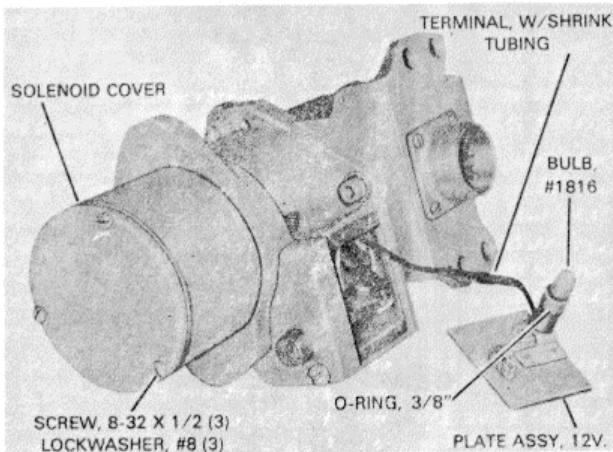
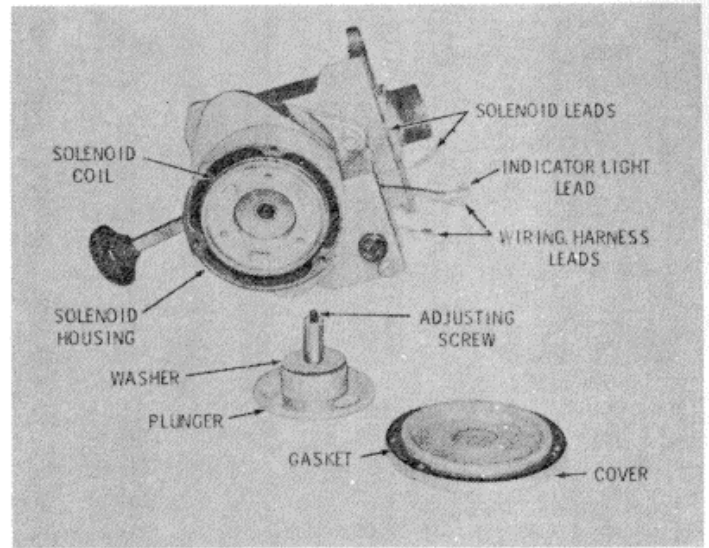
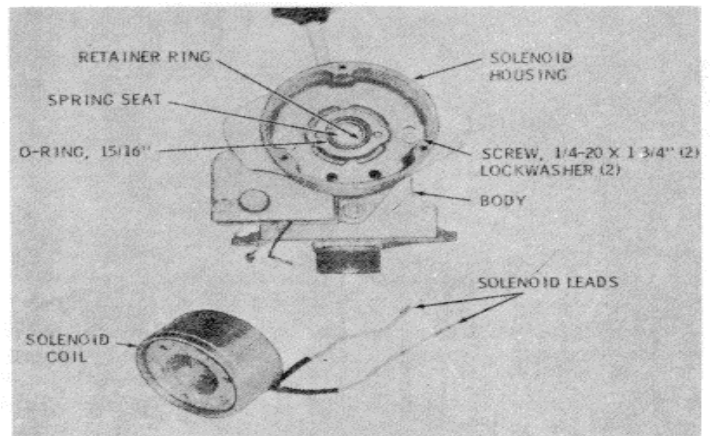

Figure 15-102. Shift Tower Assembly
Figure 15-103. Downshift Inhibitor Components
Figure 15-104. Shift Tower Assembly with Solenoid Removed
2. Carefully pull the plate assembly from the shift tower body (Figure 15-102). If necessary, remove the light bulb and O-ring from the socket.
4. Remove three screws and lockwashers that retain the inhibitor solenoid cover (Figure 15-102).
5. Remove the solenoid cover and gasket (Figure 15-103). Remove the plunger and washer from the solenoid.
6. Remove the heat-shrink tubing from the solenoid and wiring harness leads (Figure 15-103). Disconnect the leads.
7. Remove the solenoid coil, working the leads through the holes in the shift tower body and solenoid housing (Figure 15-104). Remove O-ring 58 (B, Foldout 12), retainer ring 59, spring seat 60, and spring 61 from the solenoid housing.
8. Remove two socket-head screws and lockwashers that retain the solenoid housing (Figure 15-104). Remove the housing.
24. Install two 1/4-20 x 1-3/4 inch screws and lockwashers to retain the solenoid housing (Figure 15-104).
26. Install the spring seat and retainer ring (Figure 15-104). Install the 15/16 inch (23.79 mm) O-ring into the housing counterbore.
29. Install the solenoid coil into the solenoid housing (Figure 15-104). Thread the solenoid leads through two holes in the solenoid housing, indicator support, and body cover until they can be pulled out of the bottom opening in the body (Figure 15-103).
30. Install the solenoid plunger and washer into the solenoid coil (Figure 15-103). Install the solenoid housing gasket and cover. Retain the cover with three 8-32 x 1/2 inch screws and lockwashers (Figure 15-102).
31. With the solenoid and cover installed, check the shift handle for freedom of movement in both upshift and downshift directions. Any tendency to catch during downshift movement indicates interference between the inner and outer clutch teeth. This may be corrected by removing the cover, gasket, solenoid plunger, and washer, and by rotating the adjusting screw (Figure 15-103) clockwise (inward) until there is no interference. Adjust the screw one turn at a time and recheck for clutch interference after each adjustment.
32. At this stage of assembly, there are five unconnected leads at the bottom of the selector assembly. Four are light color; one is black (Figure 15-103). Attach the two solenoid leads to the proper two wiring harness leads, insulating each connection with a short length of heat-shrink tubing.
33. Replace the bulb, O-ring, or resistor in the light socket plate assembly (Figure 15-102). Connect the lead on the plate assembly with the remaining free lead (black) in the shift tower assembly, insulating the connection with heatshrink tubing.